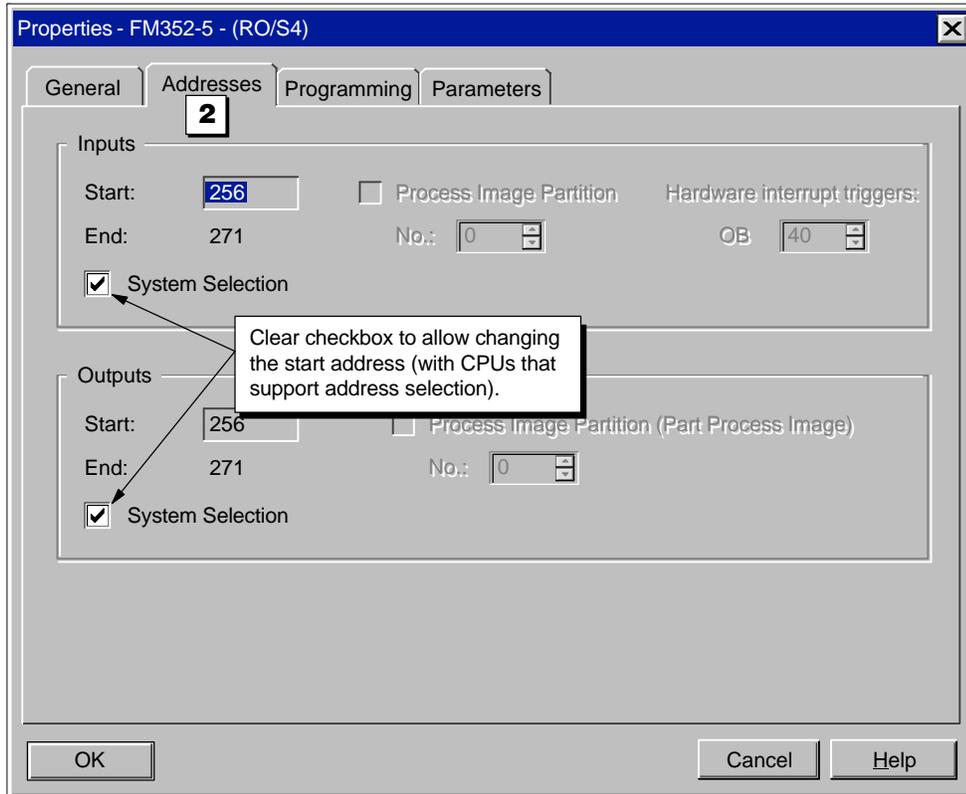

Figure 5-5 FM 352-5 Properties Dialog, Addresses Tab
- 2 The Addresses tab, shown in Figure 5-5, displays the system-selected address assignments for the inputs and outputs. You can change these addresses by unchecking the System Selection checkbox. The Start field can then be edited.